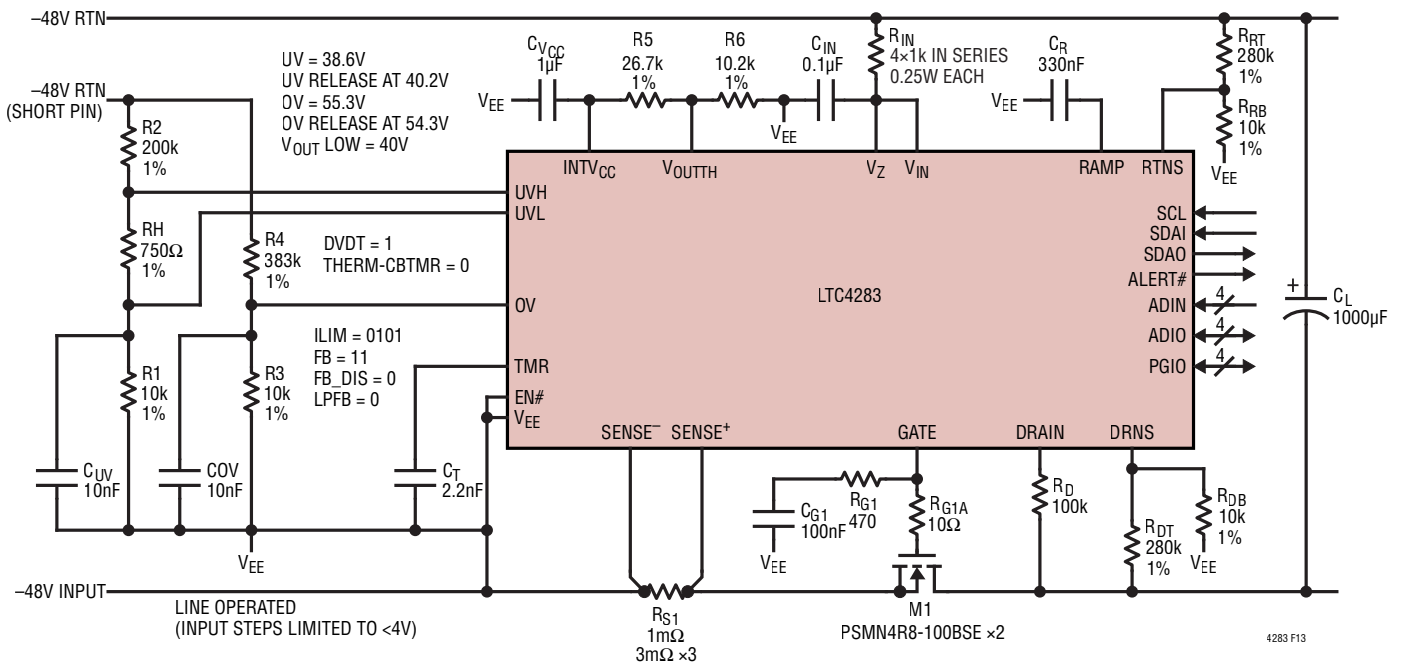

Figure 13. -48V/800W Hot Swap Controller with dV/dt Inrush Control
The second example is a line operated -48V system with supply tolerance of 10% (-43.2V to -52.8V) and maximum load power of 800W as shown in Figure 13. The load capacitance is specified as  $C_L = 1000\mu\text{F}$ .
INTVCC ( $5\text{V}$ ) and  $V_{\text{EE}}$ . The divider ratio is  $5\text{V}/1.379\text{V} = 3.63$ . A divider of  $26.7\text{k}$  and  $10.2\text{k}$  as shown Figure 13 gives a close enough ratio of 3.62.
Although it is possible to use a single, four-resistor (or three-resistor if UVH and UVL connected together) divider as shown in Example 1, Step 7, two independent dividers with 2 (OV) or 2 to 3 (UV) resistors in each divider make it easier to make non-interactive changes at a later time. The two dividers as shown in Figure 13 gives UV shutdown at 38.6V, UV release at 40.2V, OV shutdown at 55.3V and OV release at 54.3V, which covers the full input voltage range of this example. 10nF capacitors filter out noises on UVL and OV.